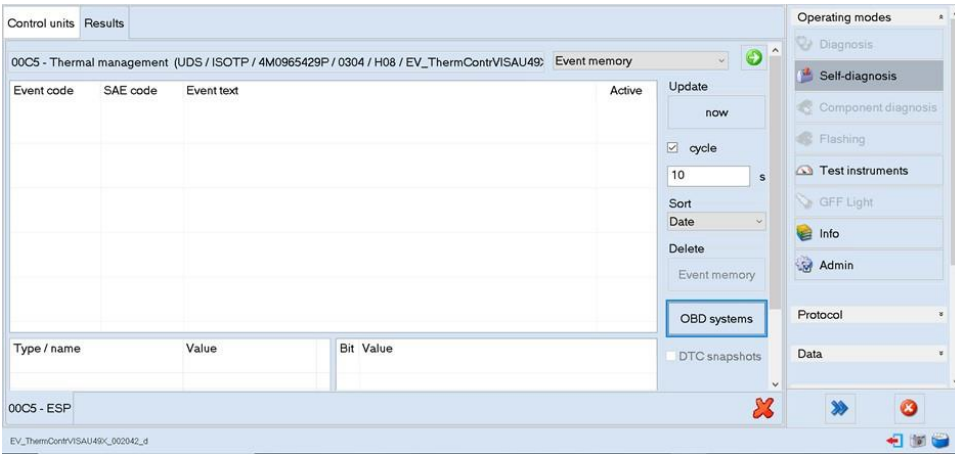

Figure 6
- The DTC should now be deleted (Figure 6)